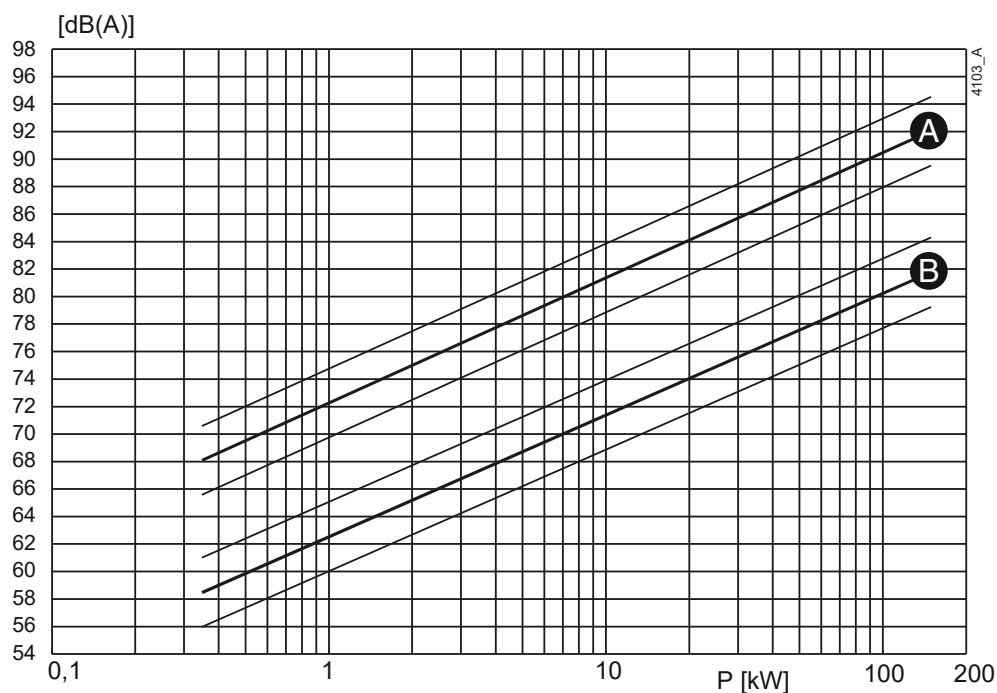
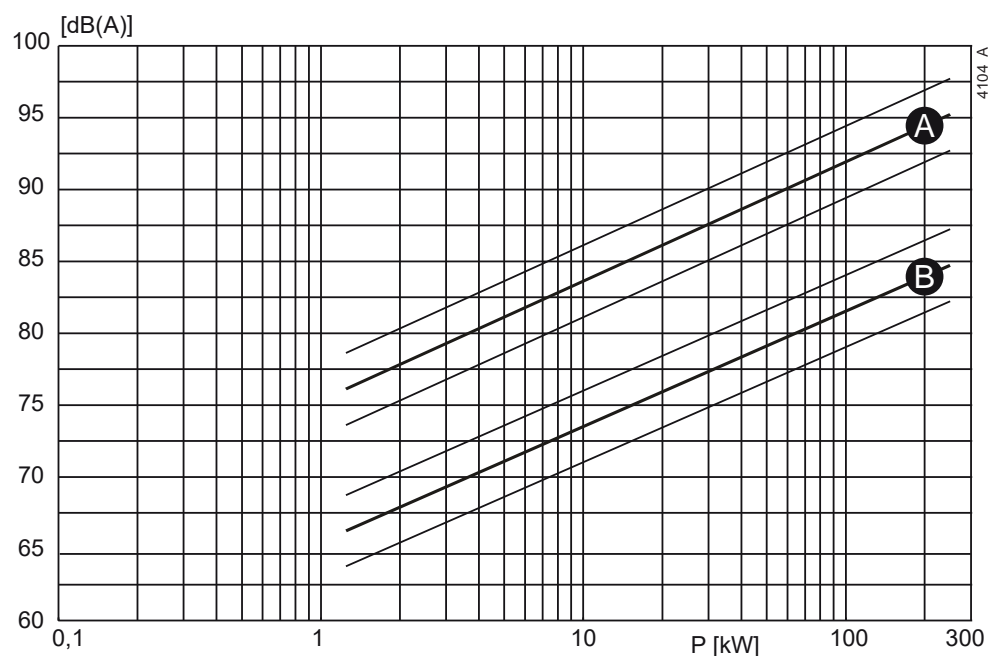

Figure 20: Noise level as function of pump power [kW] at 1450 min⁻¹
Figure 21: Noise level as function of pump power [kW] at 2900 min⁻¹
- 1 Determine the noise level (L1) of the pump, see figure 20 or figure 21.